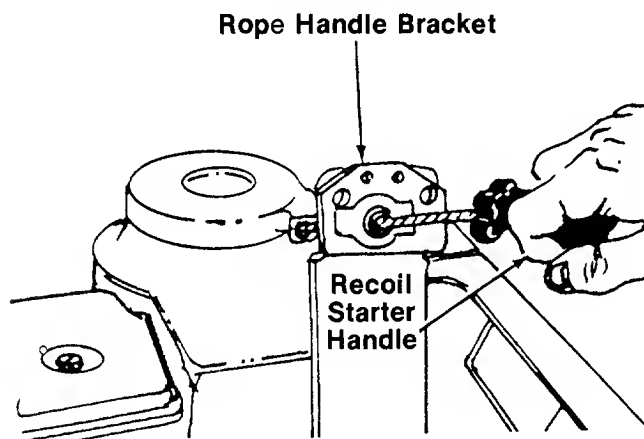

FIGURE 22.—Recoil Start Model
The recoil starter handle is located on the left rear side of rider. The recoil starter handle can be pulled while standing by the left rear side of unit. The ignition key must be on before the engine will start. After the engine starts, the recoil starter handle must be returned and locked into the rope handle bracket before the blade or clutch is engaged. The engine will stop if these instructions are not followed. See figures 22 and 23.
6. a. **Recoil Start Units:** Turn the ignition key to the **ON** position. Twist the recoil starter handle until it is free and pull it with a quick steady motion. After the engine starts, return the recoil starter handle and twist it until it locks. See figure 22.